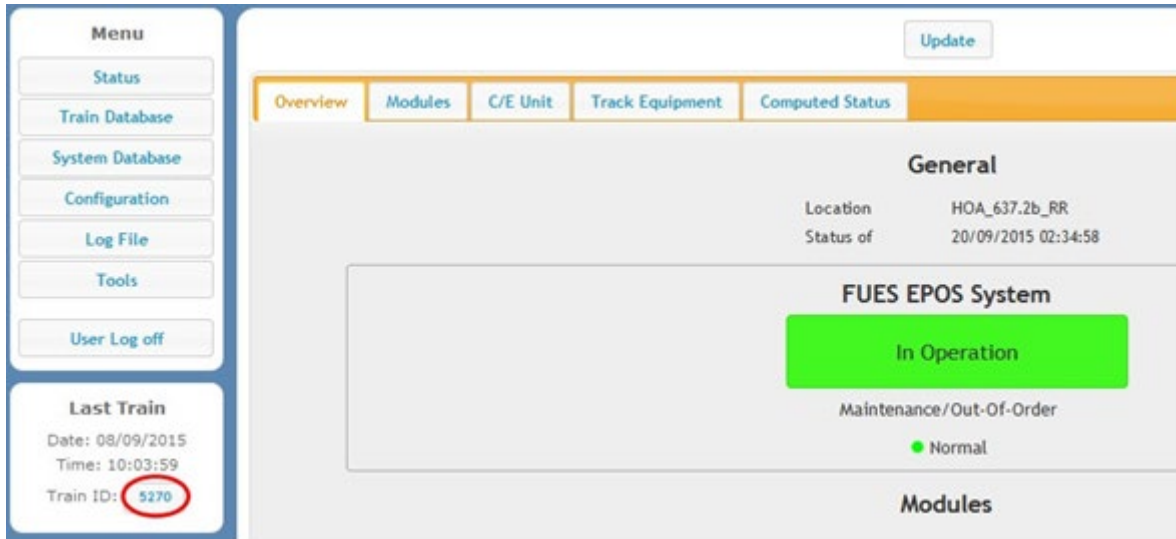

Figure 4 - Selecting the last train in the "Train selection" tab
2.4 Click the Train ID button in the Last Train area below the navigation menu (see Figure 4, circled in red).